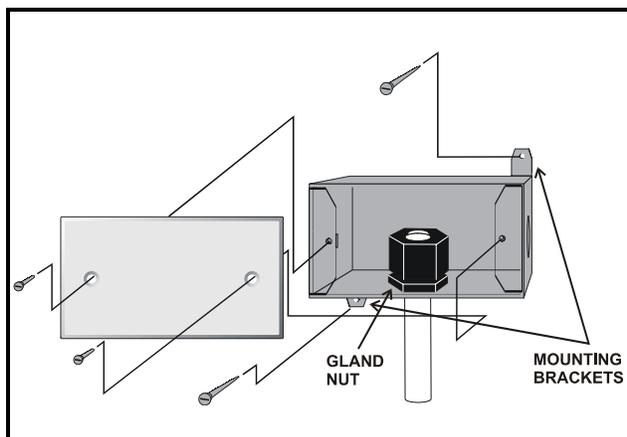

Figure 3-28 - Outdoor RH Sensor - Exploded View
1. Secure the rear side of the enclosure to the outside wall using the two mounting brackets, as shown in *Figure 3-28*. The tube holding the sensor element should point straight down.